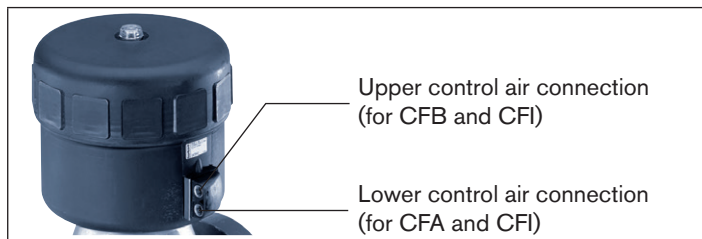

Fig. 7: Control air connection
- Pressurize lower control air connection with compressed air (value as indicated on the type label) (see „Fig. 7“). This is required to detach the diaphragm without damage from the body.
- Pressurize the lower control air connection with compressed air (value on type label) (see „Fig. 7: Control air connection“).
- Pressurize the lower control air connection with compressed air (value on type label) (see following „Fig. 7: Control air connection“).
→ Connect control medium to upper and lower connections (see „Fig. 7: Control air connection“).